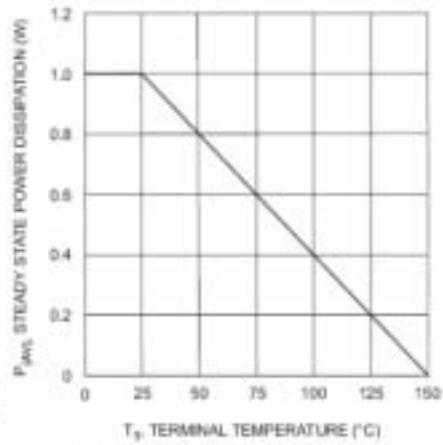
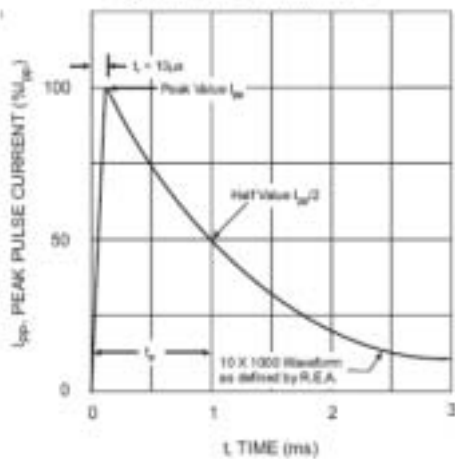

Fig2. Steady State Power Derating
Fig3. Pulse Waveform
- NOTES : 1. Non-repetitive current pulse, per Fig. 3 and derated above TA = 25°C per Fig. 2.